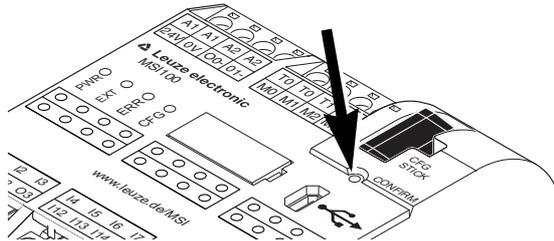

Figure 6-6 Confirming the configuration with the "Confirm" button
- Confirm the new configuration by pressing the "Confirm" button using a pen (see Figure 6-6).